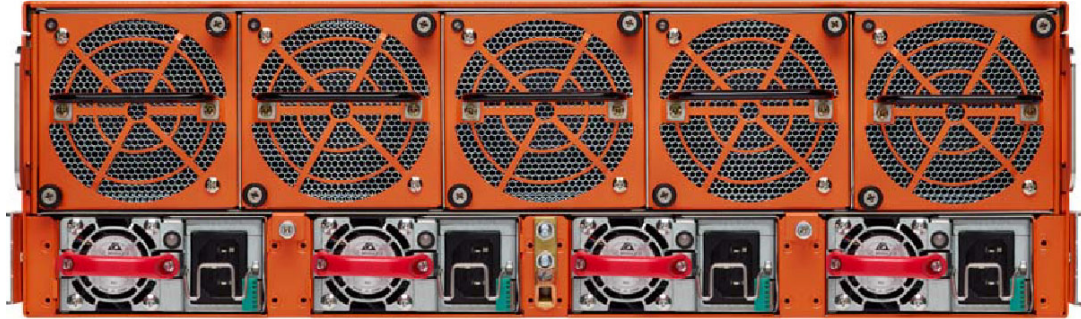

Figure 3-6: Four Power Supply Modules Installed
4. Repeat the previous steps for the next PSM. Figure 3-6 on page 55 shows the GigaVUE-HC3 node with all four power supply modules installed.